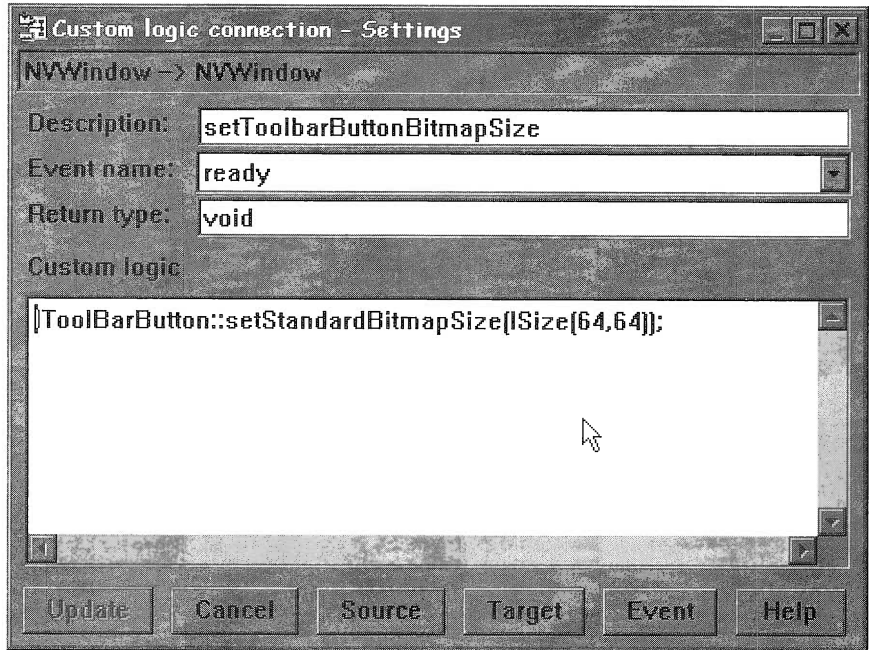

Figure 224: Custom logic to set tool bar button bitmap size
- ❑ set the `standardBitmapSize` value by using custom logic. See Figure 224.